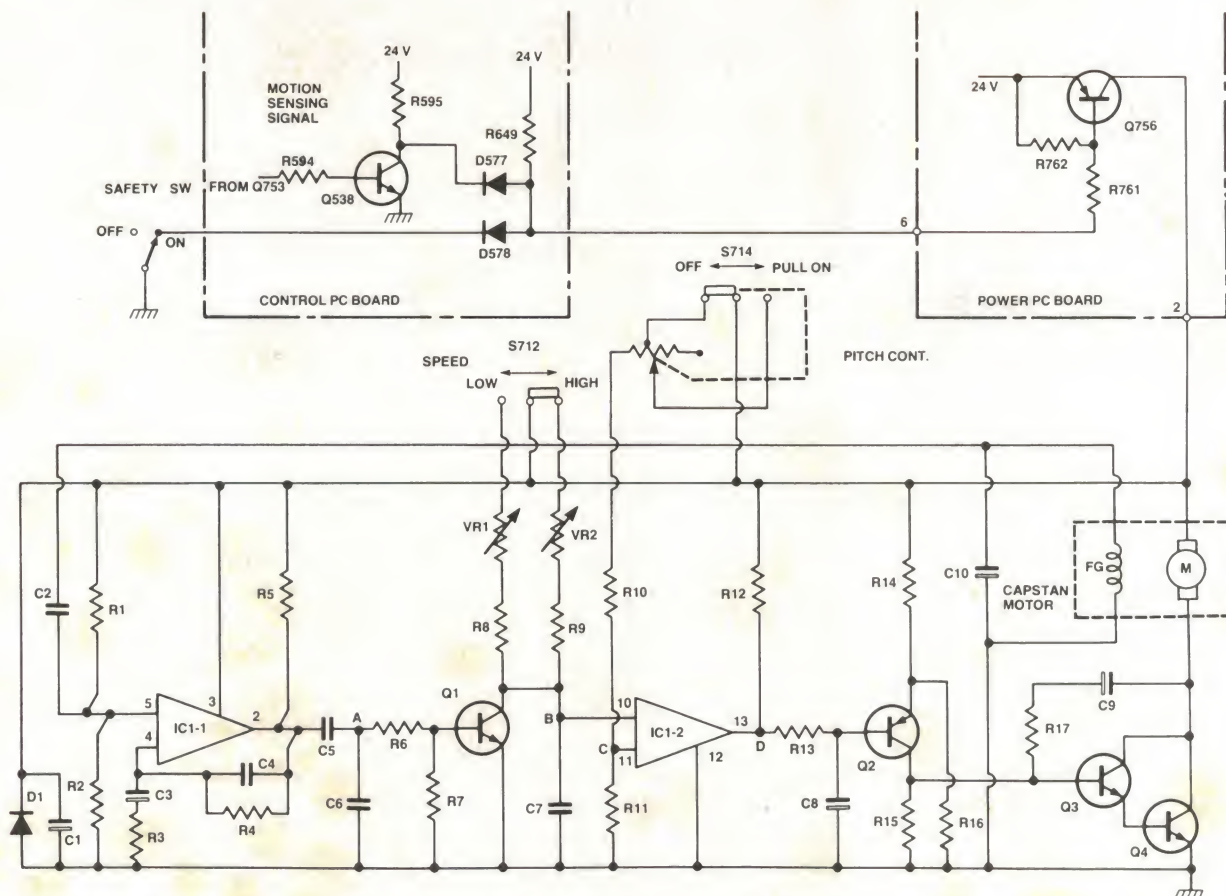

Figure 24. The servo speed control circuit used in the Tascam 35-2B deck.
The Teac Tascam 35-2B open-reel deck employs the servo circuit of Figure 24 for speed control of the capstan motor. When transistor Q756 is turned on by current to pin 6 of the power pc board, power is supplied to the capstan servo amplifier. The dc motor has frequency generator coils (FG) which produce a sinewave signal with a frequency and amplitude proportional to the speed of rotation of the motor. This signal is amplified and shaped by IC1-1 to produce a constant amplitude square wave which is differentiated and coupled to the monostable circuit comprising Q1 and IC1-2. The output of the latter is smoothed by C8, amplified by Q2, Q3 and Q4 and then drives the motor. The motor speed depends on the mean dc level at point D, which is determined by the pulse width T.